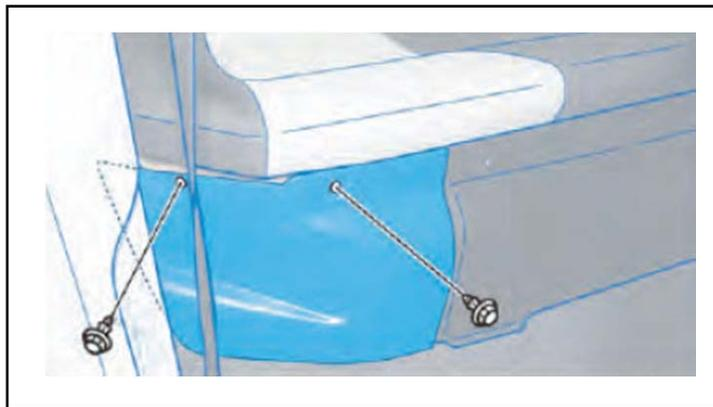

Figure 27
28. Install the passenger's side rear seat under cover and (2) clips. See figure 27.